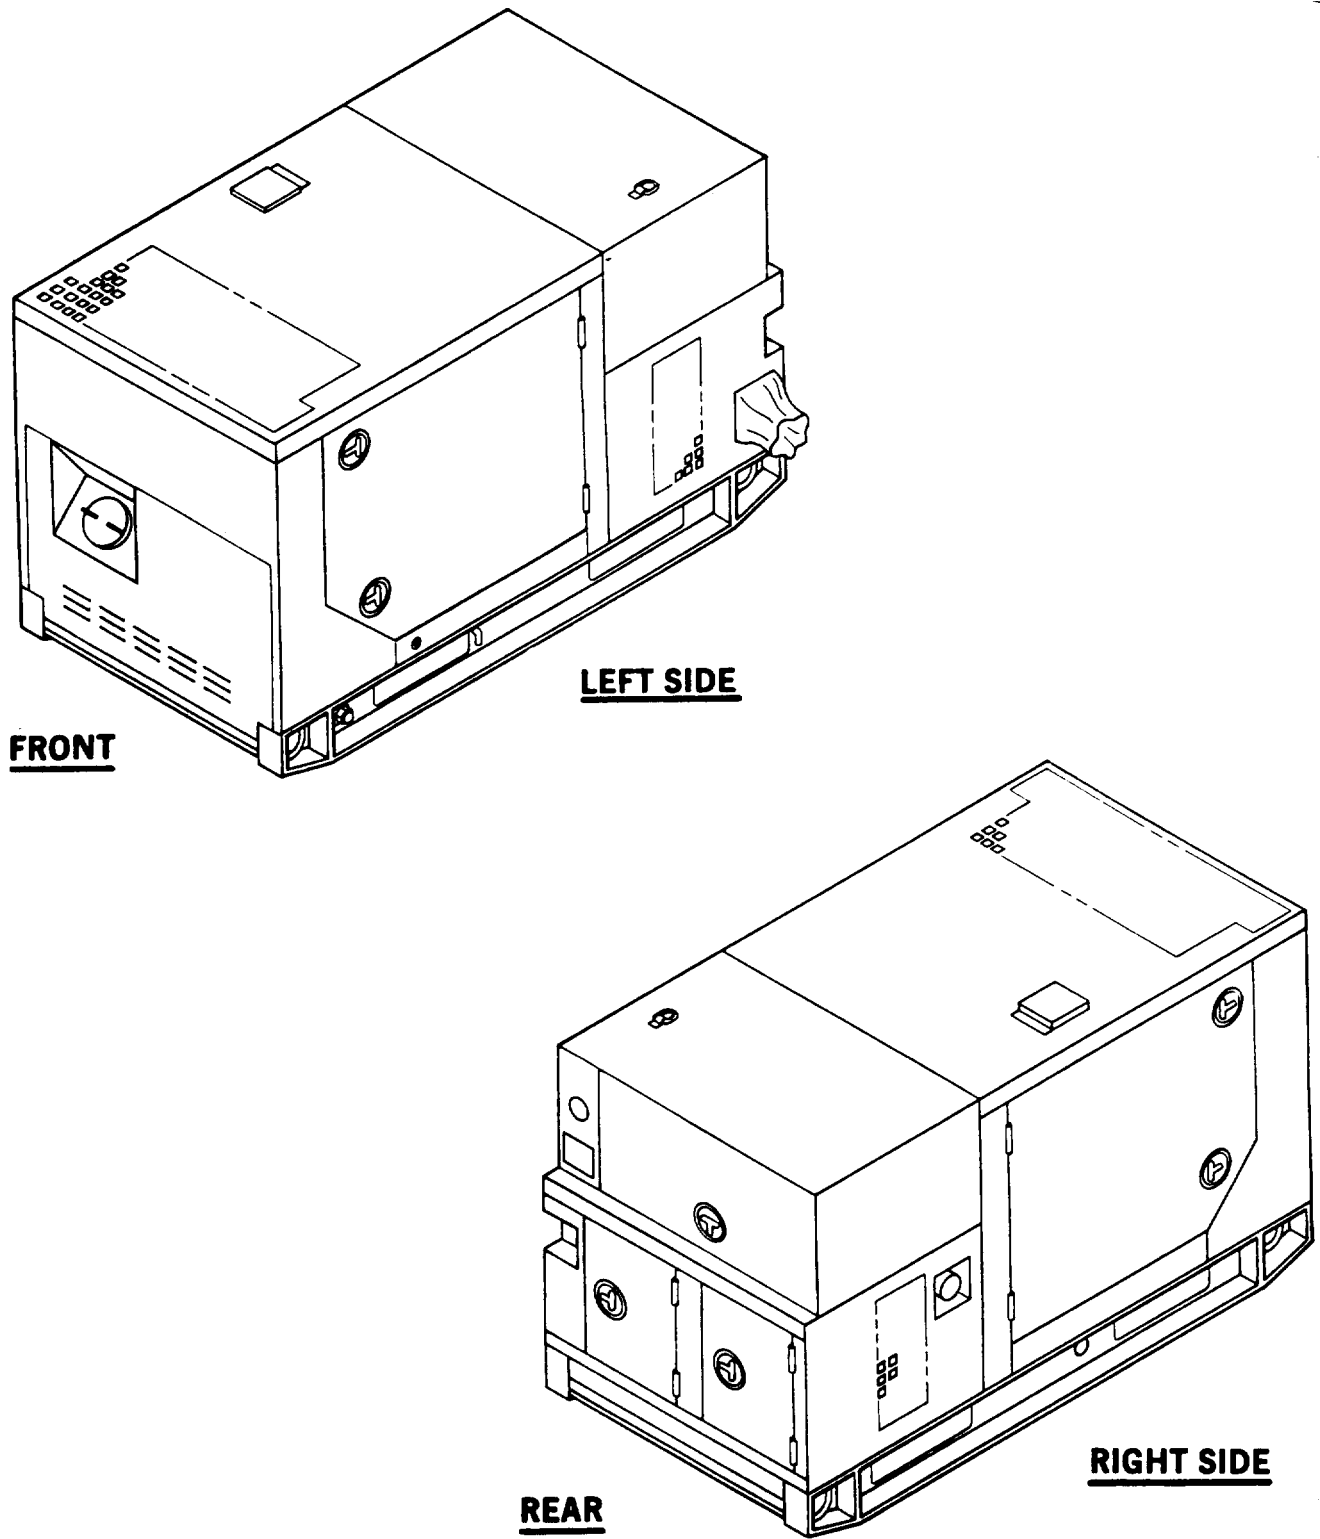

Figure 1-1. Generator Set, 10 kW, Tactical Quiet
1-1.1 Type of Manual. This manual contains operation and operator maintenance instructions for the Tactical Quiet (TQ), 10 kW 60 and 400 Hz Generator Sets (FIGURE 1-1), herein referred to as generator set. Included are descriptions of major components and their functions in relation to other components.